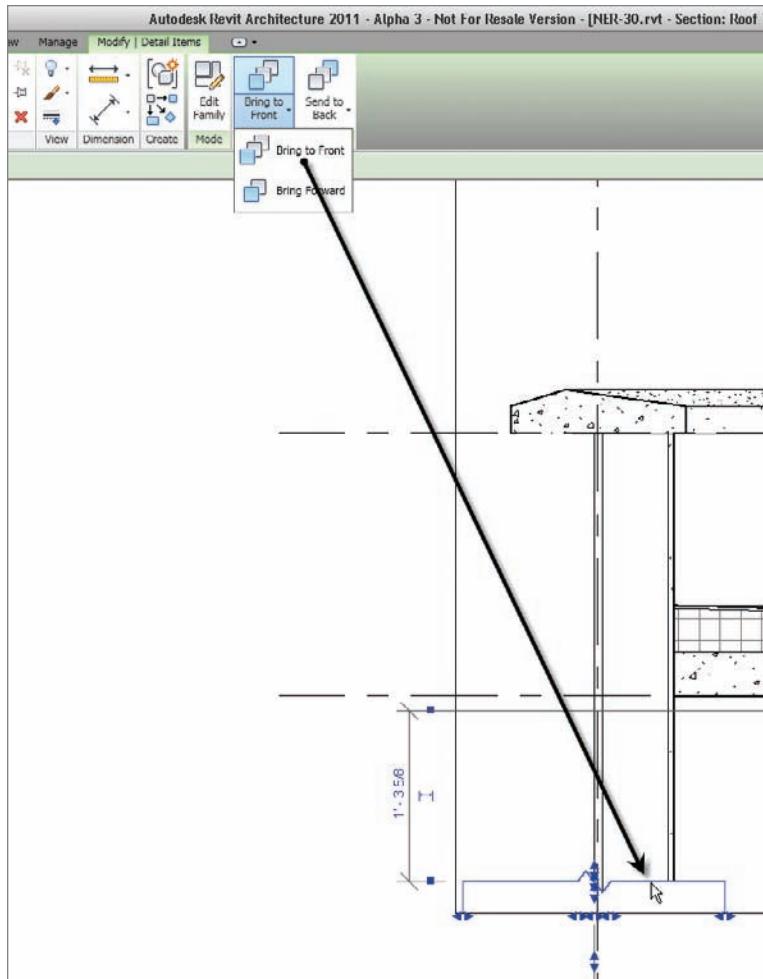

FIGURE 12.8 Click the Bring To Front button on the Modify | Detail Items tab after selecting the break line.
1. Select the break line, as shown in Figure 12.8.
2. On the Modify | Detail Items tab, click the Bring To Front button, as shown in Figure 12.8.